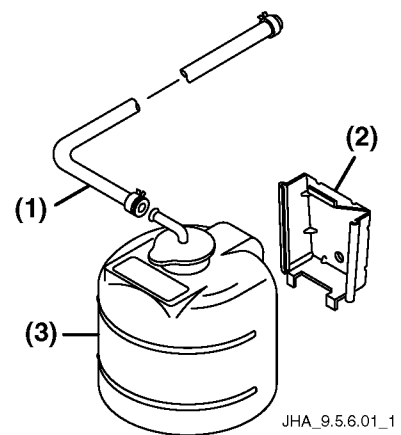

Figure 7-13
The overflow tube (**Figure 7-13, (1)**) should be less than 1000 mm (39.37 in.) long, and mounted so that it does not sag or bend.